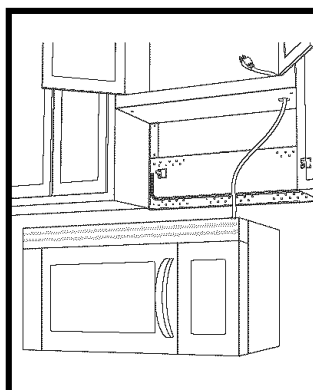

Figure 23
1. Thread the Power Supply Cord through the hole made in the bottom of the top cabinet. Install the oven by snapping it onto the Mounting Plate. See Figure 23.